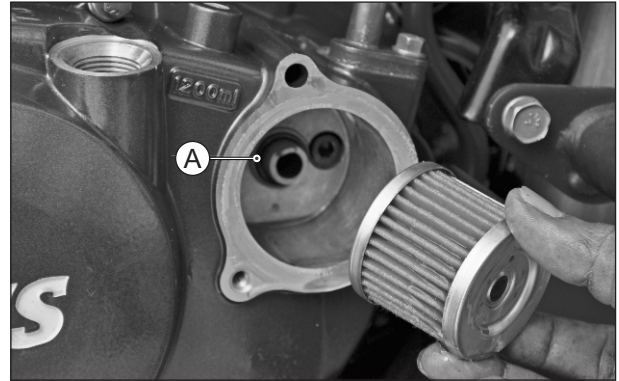

Fig. 2.35
- Remove the filter complete engine oil and 'O' ring (A). (Fig. 2.35)